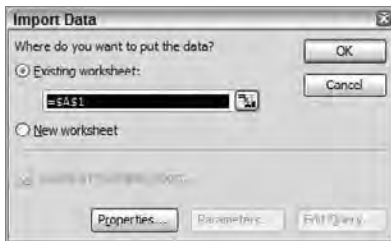

Figure 28.5: Select the upper left corner of where you want data to import on an existing worksheet.
- In the Import Data box, shown in Figure 28.5, select where you want the new data to be inserted.